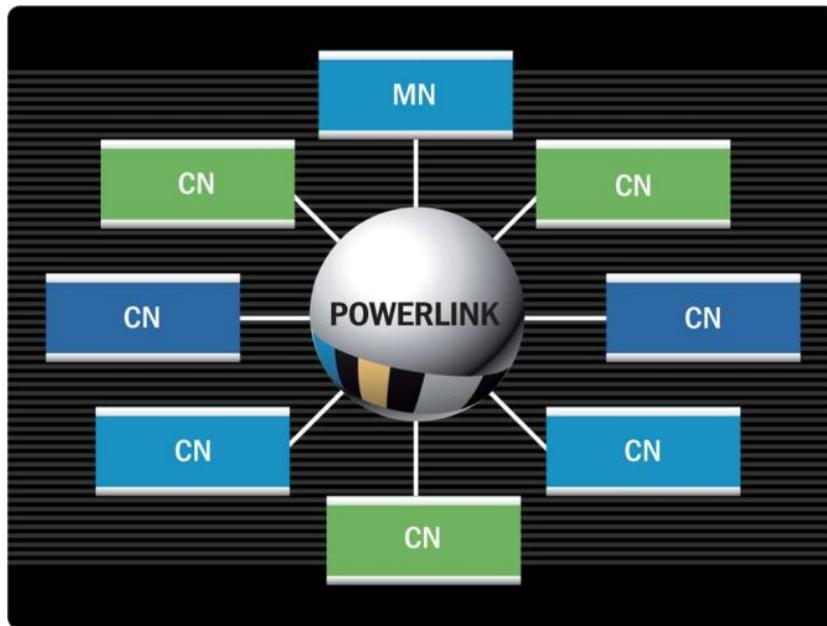
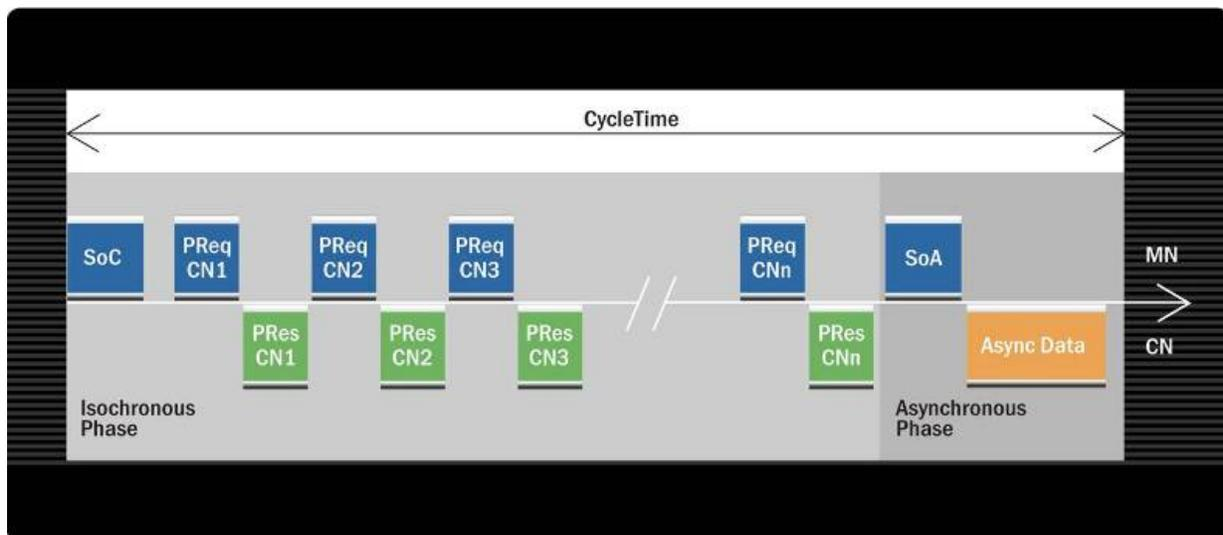

Figure 1
Figure 2
POWERLINK was designed and developed to address the needs for reliable and deterministic real-time communications for automation. POWERLINK is an open source protocol which solves the determinism problem using a simple collision avoidance scheme. The POWERLINK protocol uses standard Ethernet frames. It introduces the concept of a bus master (figure 1) called the Managing Node (MN). All other components on the network are Control Nodes (CN). POWERLINK is a cyclical protocol. The bus cycle time is determined at the time of configuration. The cycle is split into two phases (figure 2). During the first phase of the cycle (isochronous phase) the-time critical information is transmitted by the MN and CNs in a scheduled manner, avoiding frame collisions. During the second part of the cycle (asynchronous phase) all nodes may communicate as needed using standard Ethernet protocols such as TCP/IP, SNMP, etc., to communicate non time-critical data.